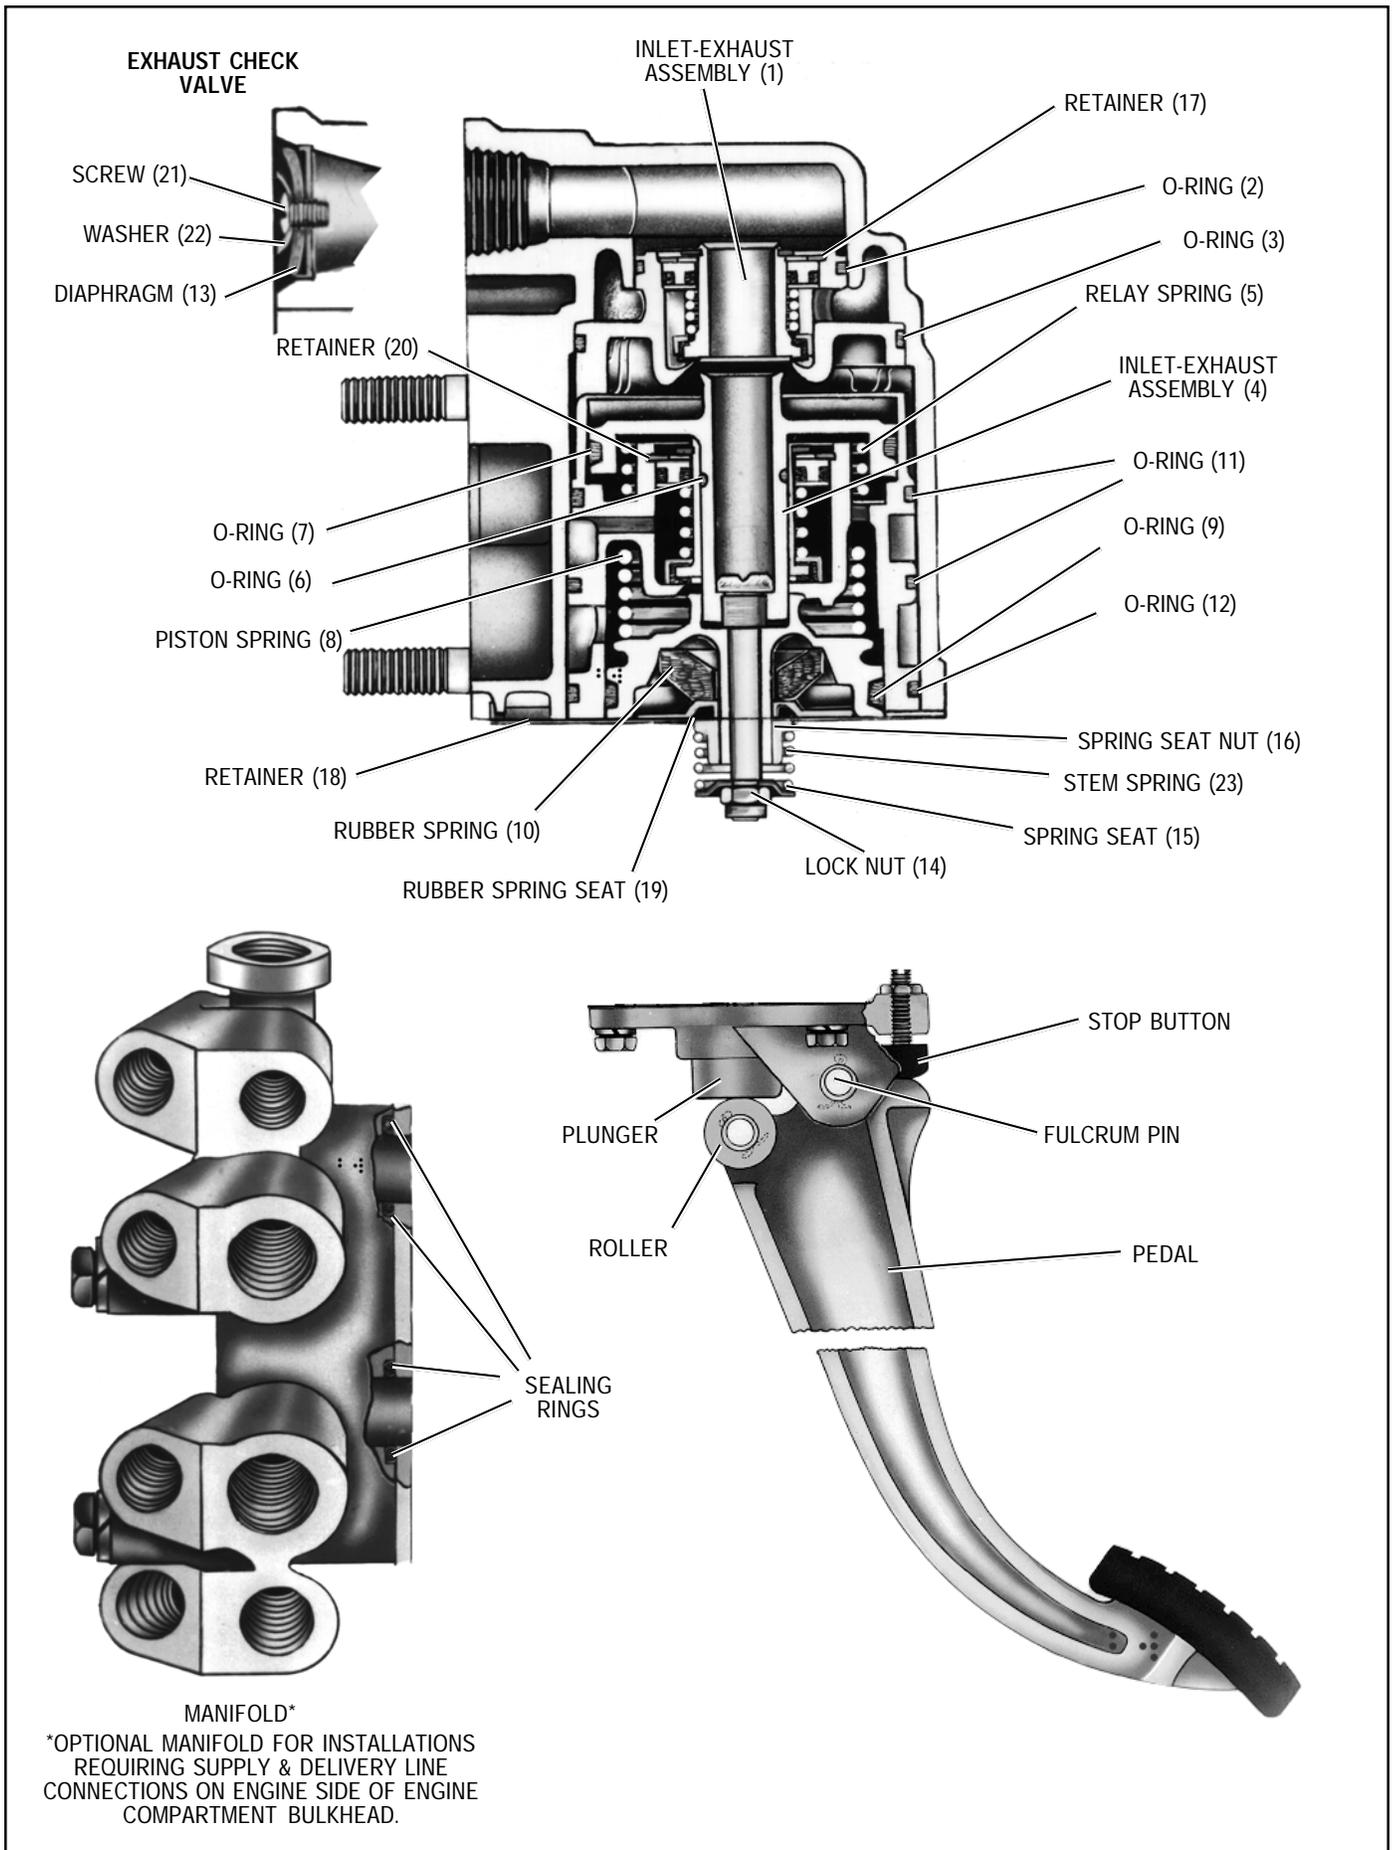

FIGURE 2 - E-7™ DUAL BRAKE VALVE
DISASSEMBLY (REFER TO FIGURE 2)
Some E-7™ brake valves have an air exhaust check valve (13, 21 & 22) as shown on Figure 2. If so, remove screw (21), and washer (22), and discard diaphragm (13). Replace (21) and (22) using new diaphragm (13).